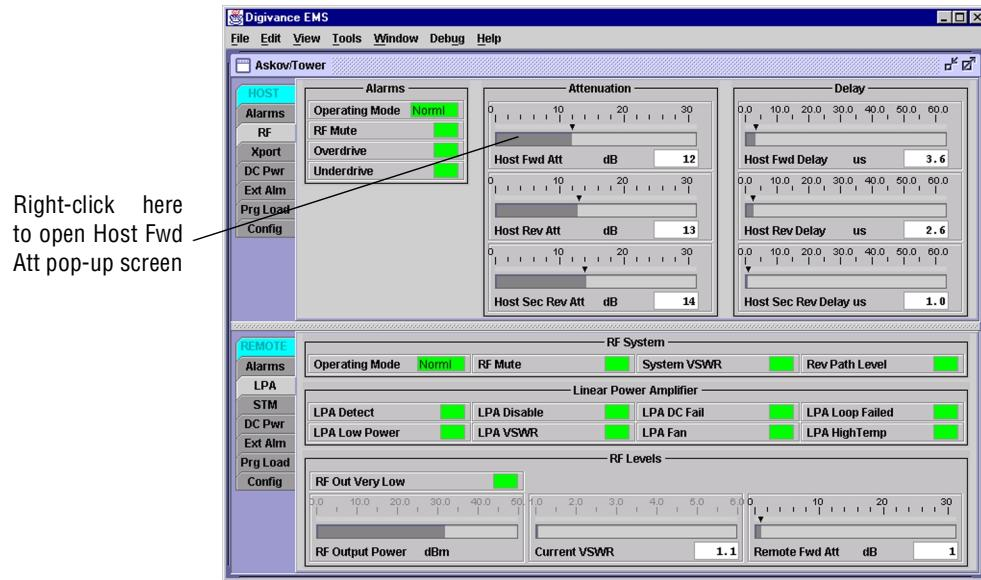
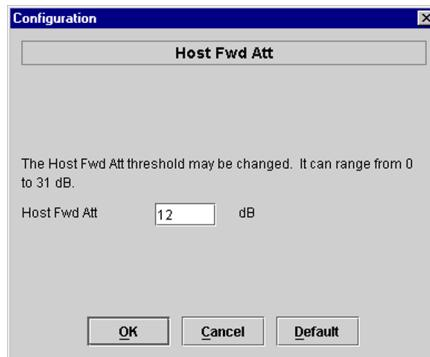

Figure 4-8. HOST RF Display
Figure 4-9. Host Fwd Att Pop-Up Screen
1. Click on the HOST **RF** tab. The HOST **RF** display will open within the EMS main window as shown in Figure 4-8.
2. Right-click on the **Host Fwd Att** section of the display (see Figure 4-8). The **Host Fwd Att** pop-up screen will open as shown in Figure 4-9.